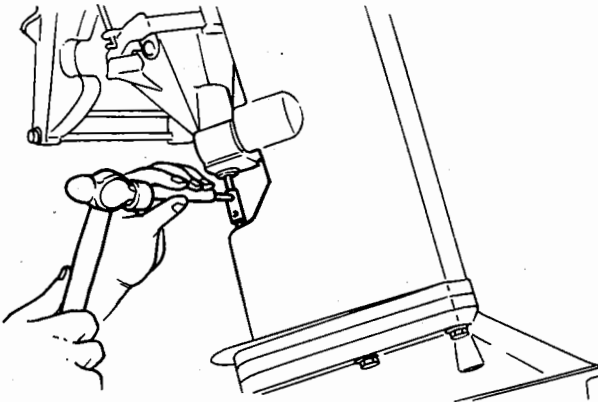

Fig. 59 Removing the spring pin
- 1) Pull out the upper spring pin of the shift rod joint using the special tool. (Fig. 59)